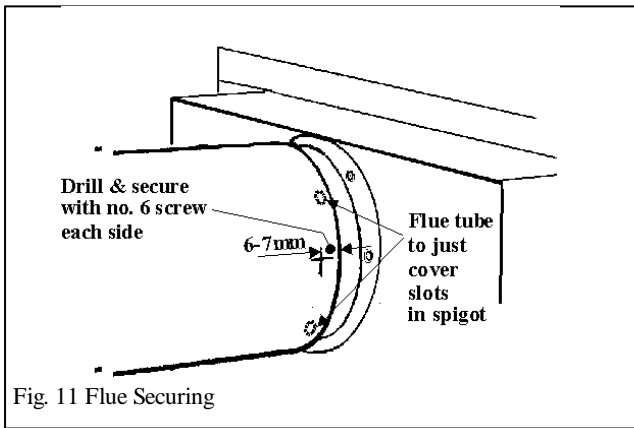

Fig. 11 Flue Securing
- Fit the flue tubes firmly over the spigots at the rear of the fire. Make sure that the seam on the flue tube is not at the bottom. Push on until the outer (air) tube just covers the slots in the appliance outer spigot. See figure 11
- Secure the flue to the fire by drilling through the outer flue tube and outer spigot at a distance of between 6mm & 7mm from the cut end of the outer flue tube and securing with the two no.6 self tapping screws supplied. See figure 11.